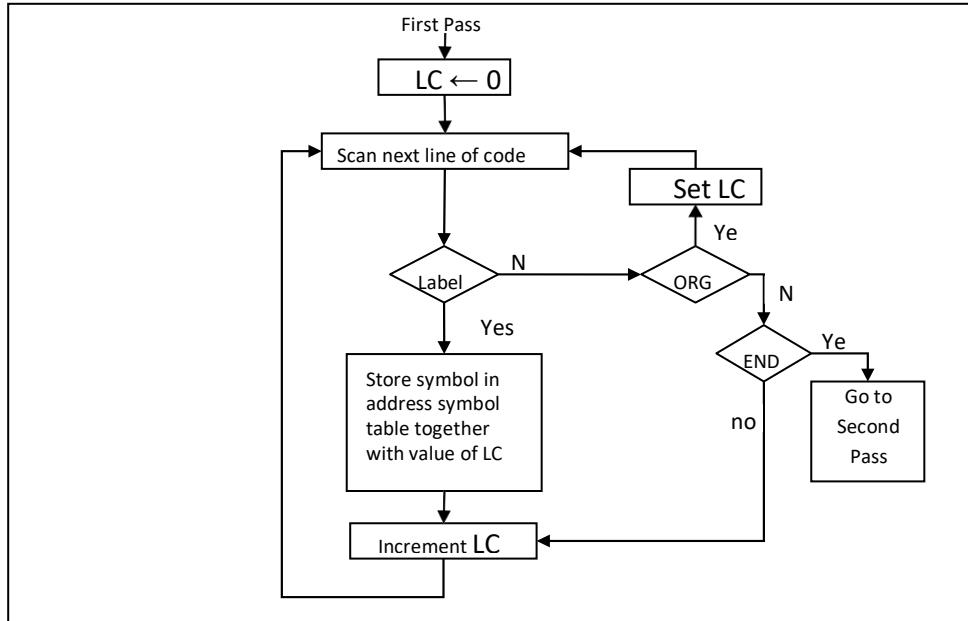

Figure 3.1: Flowchart for first pass of assembler
- The tasks performed by the assembler during the first pass are described in the flowchart of figure 3.1.